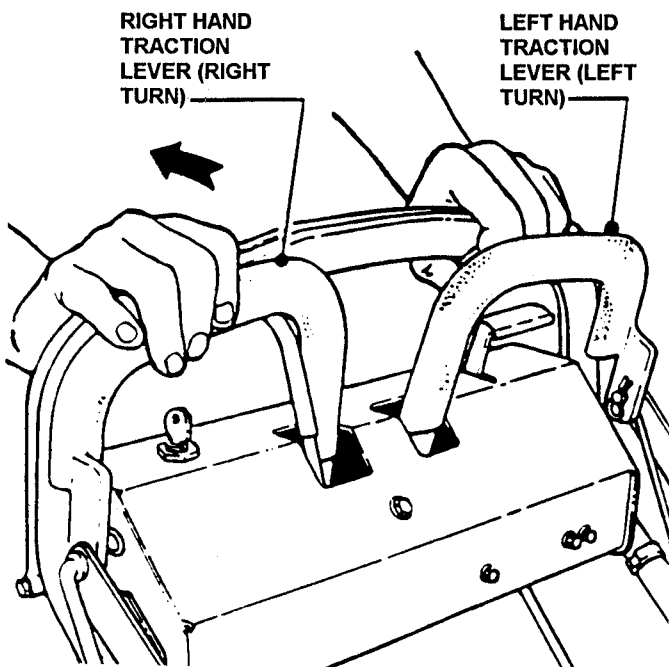
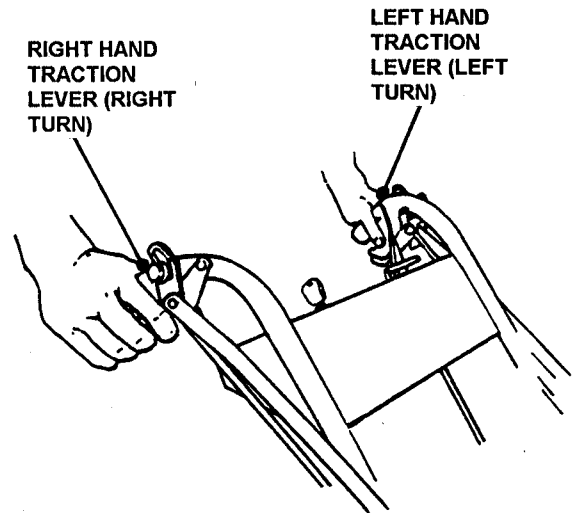

FIGURE 12
FIGURE 13
12. The mower is **TURNED** by declutching wheel drive belts while engaging wheel brakes - turn left by squeezing the left hand traction lever or turn right by squeezing the right hand traction lever. See figure 12 looped handle, or figure 13 pistol grip. The more pressure applied while squeezing the traction lever, the sharper the mower will turn.